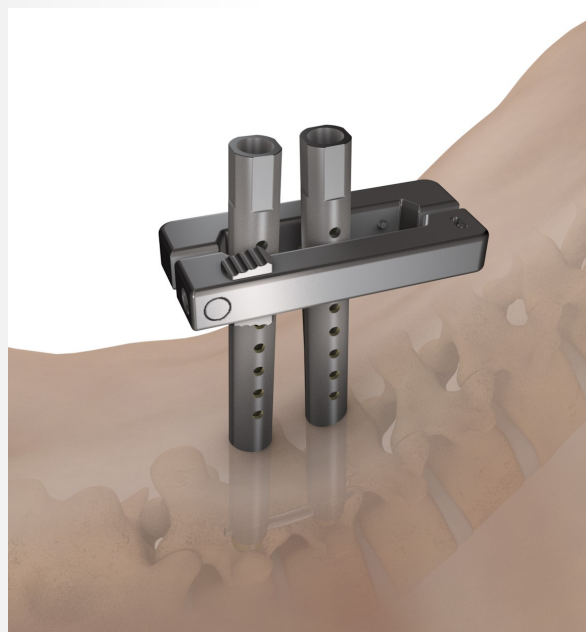

Figure 25
- B. Position **MIS Connector** with lock/release button facing up over Support Towers. Slide the lock button to release the lock of MIS Connector. Align the holes of Support Towers, and close MIS Connector to lock Support Towers into position (Figure 25).